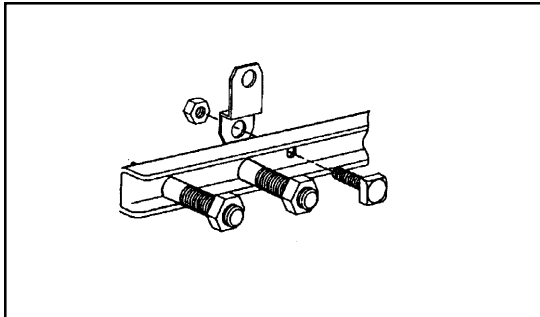

FIGURE 29 – AERIAL INSTALLATION
16.01 Place two lashing wire clamps (not supplied) on the suspension strand; (Figure 29) one directly above each aerial suspension plate that was placed in Step 15.02.